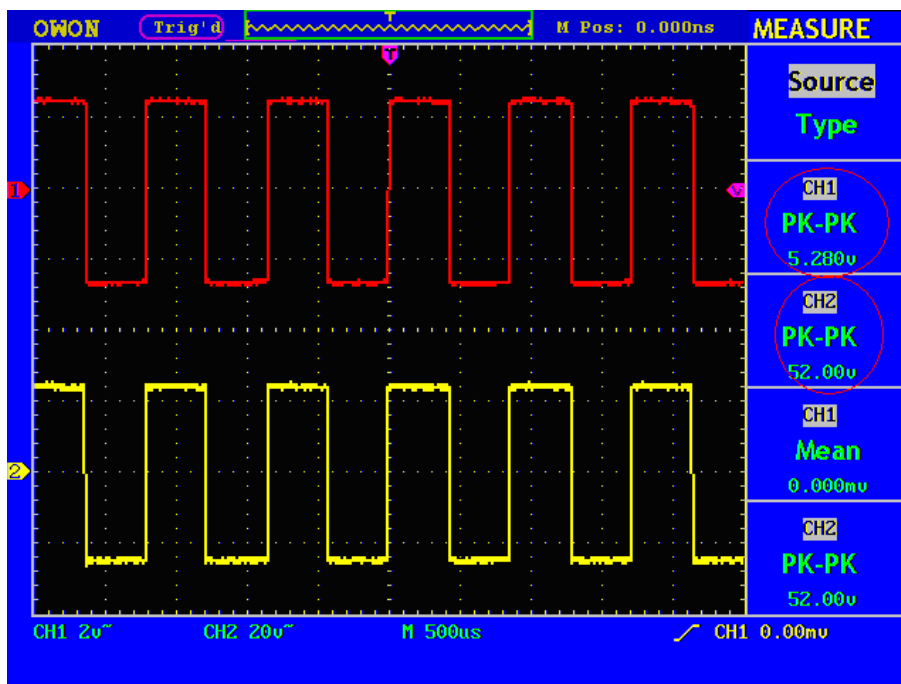

Fig.6-2 Wave Form of Gain Measurement
10. Read the peak-to-peak values of Channel 1 and Channel 2 from the displayed menu (see Fig.6-2).